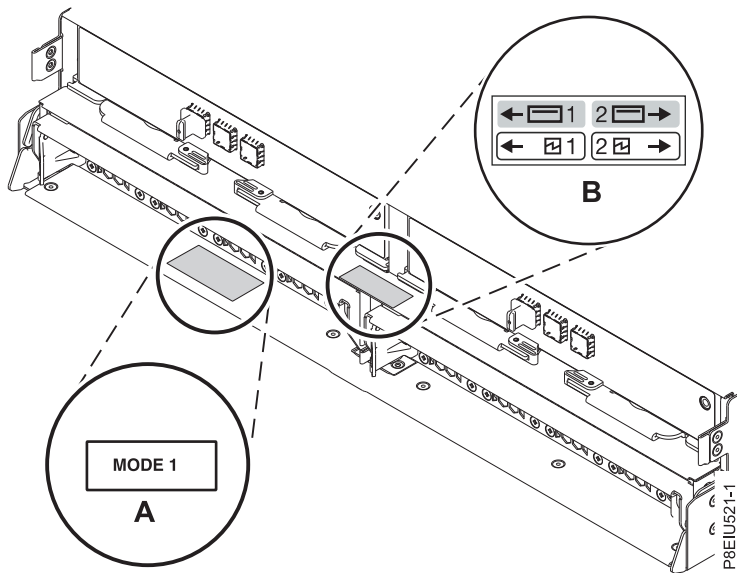

Figure 12. Mode sticker locations at the rear of the 5147-024, ESLL, or ESLS storage enclosure
2. Confirm the factory-set mode of the enclosure by using information that is printed on stickers at the rear of the enclosure. Stickers are attached to the lower-left shelf of the chassis **(A)** and the center support between the enclosure services manager modules **(B)**. The stickers indicate whether the enclosure is set to mode 1, mode 2, or mode 4. For more information, see Figure 12 on page 12.